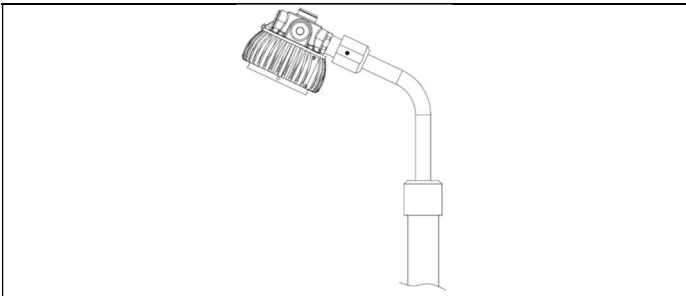

Figure 4
- ☞ The mounting type is for the use of angle bending electrical tube mounting (Figure 4/5).